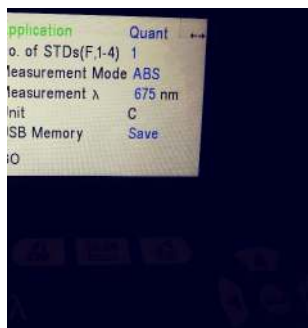

Figure 6. APPLICATION QUANT
8. Then the screen will show APPLICATION QUANT, press the right arrow again. Refer to figure 6.